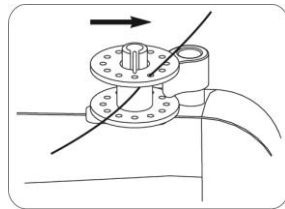

Fig.31
4. Push the bobbin winder pin towards the bobbin winder stop. (Fig.31)